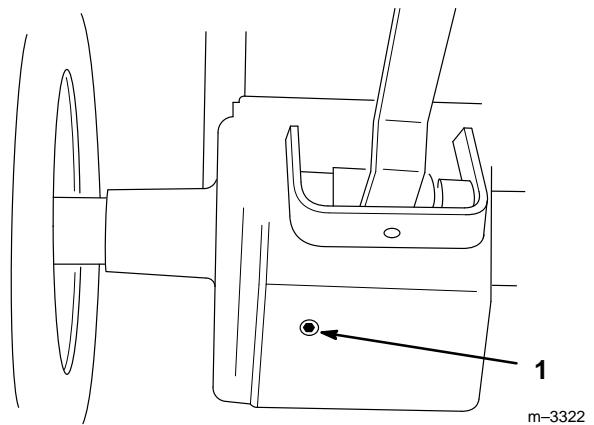

Figure 48
3. Place a pan below the transaxle drain. Open the drain by removing the plug (Fig. 48).